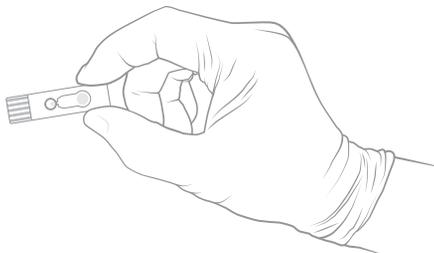

figure 1
- Holding sensor at front side edges (see **figure 1**), insert the RedoxSYS Sensor face-up and with the sensor electrodes facing the RedoxSYS Analyzer. Align the socket insertion end with the sensor socket on the RedoxSYS Analyzer. Make sure the sensor is fully inserted.